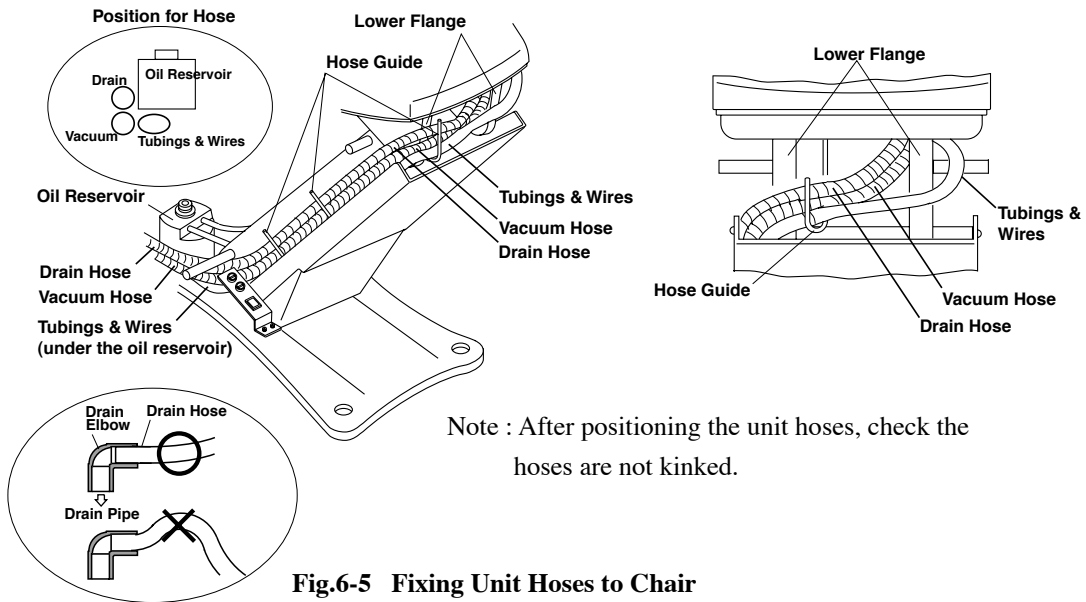

Fig.6-5 Fixing Unit Hoses to Chair
(1) Fixing The Unit Hoses to Chair (Fig.6-5)